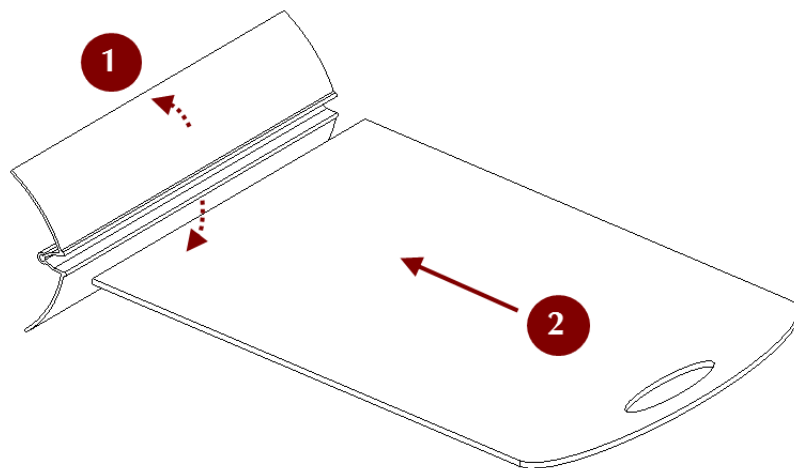

Figure F.1: Assembling the rig ver. 1
3. Insert the board into the slot formed, as shown in the figure F.1.